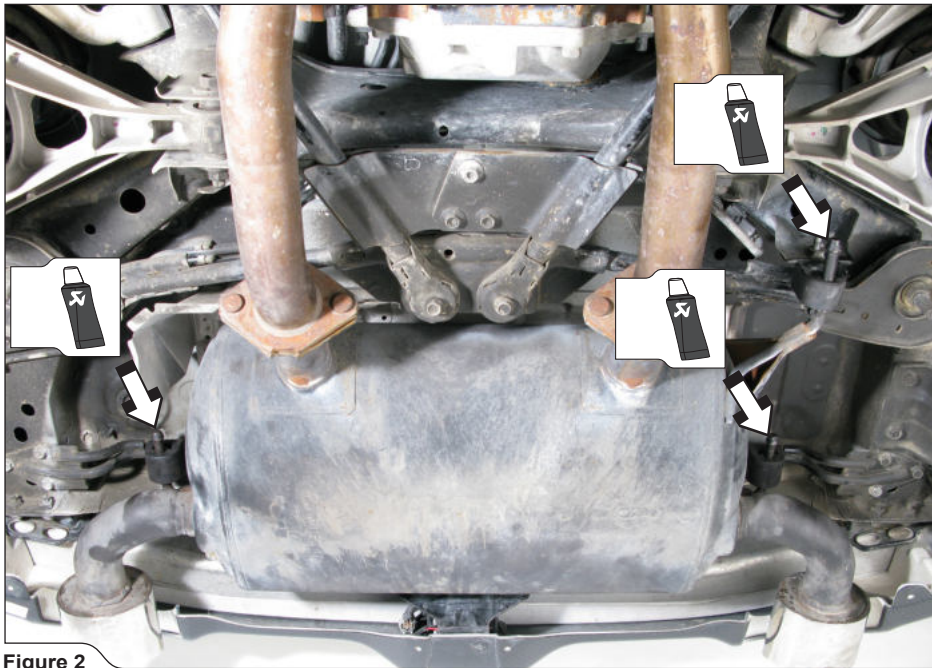

Figure 2
2. **For Slip-On and Evolution:** pull the muffler off the marked rubber brackets and remove it off the vehicle (**Figure 2**).